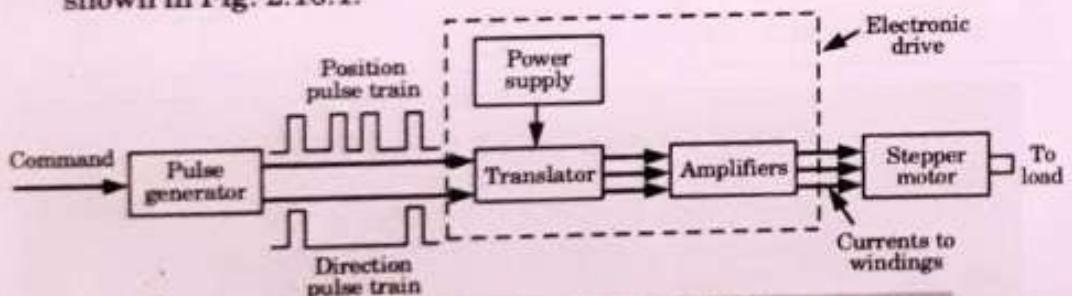

Fig. 2.16.1. Open-loop control of a stepper motor.
1. The open loop control is simpler and more widely used; such a scheme is shown in Fig. 2.16.1.